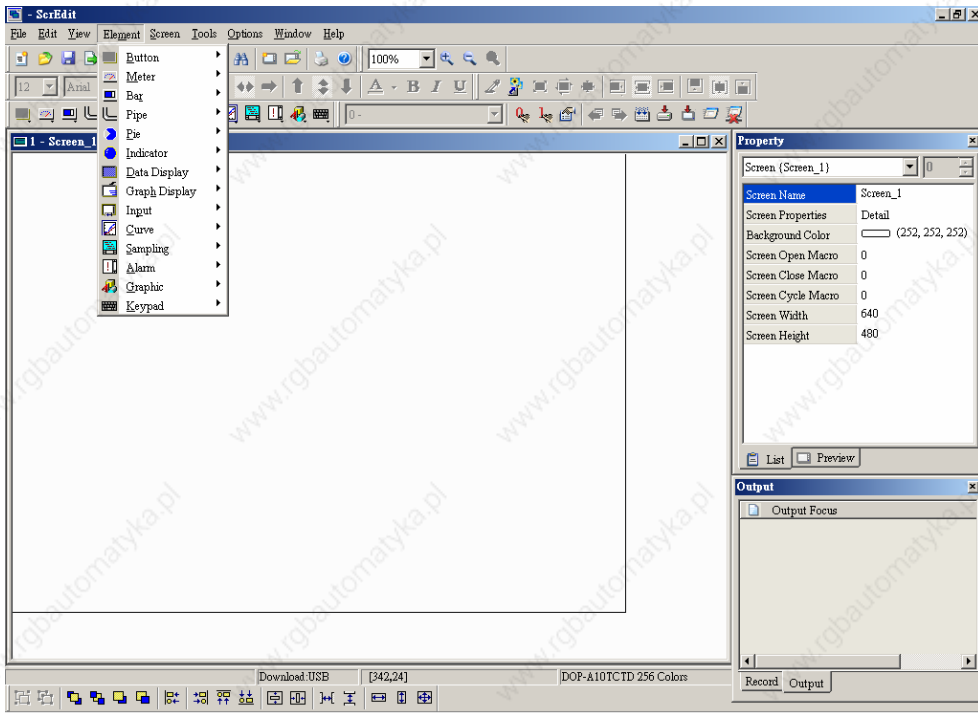

Fig. 3.1.2 Choosing Element command from menu bar
2. Choose Element command from menu bar as Fig. 3.1.2.